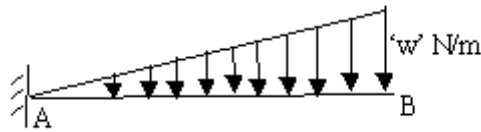

Figure 14:
- (b) Calculate the location at which maximum deflection occurs and the expression for maximum deflection in a simply supported beam AB subjected to uniformly increasing load of '0' at A to 'w' N/m at B. Assume $I = 0.4 \text{ m}^4$ and $E = 200 \text{ GPa}$. Shown in Figure 14 [4+12]